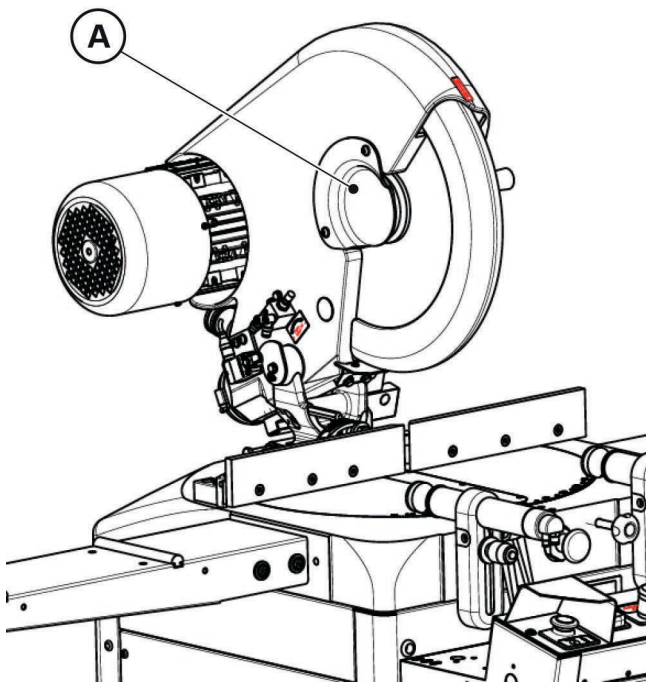

Fig. 09-06
- Remove the external flange cover casing "A" (Fig. 09-06) by turning the 2 fixing screws.